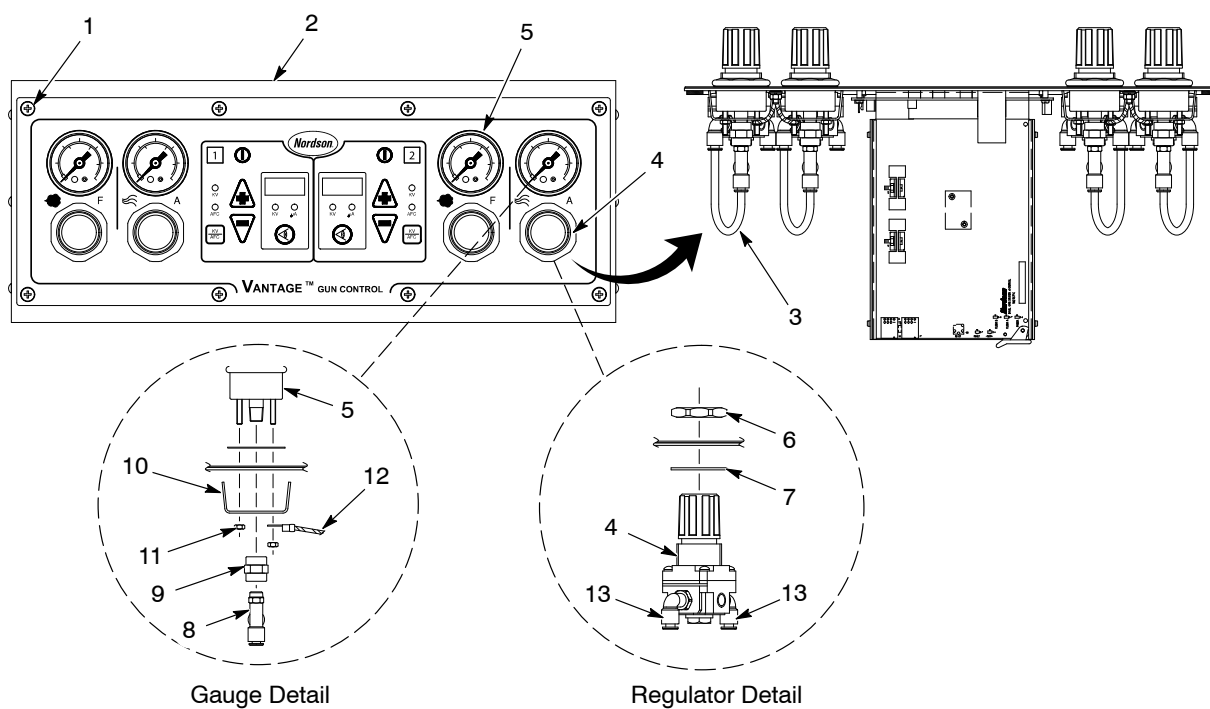

Figure 6-6 Regulator and Gauge Replacement
1. See Figure 6-6. Remove the eight screws (1) securing the front panel (2) to the cabinet. Carefully pull the front panel from the cabinet so you do not disconnect any cables or tubing or damage the front display.
2. Tag and disconnect the air tubing (3) from the regulators (4) and gauges (5).